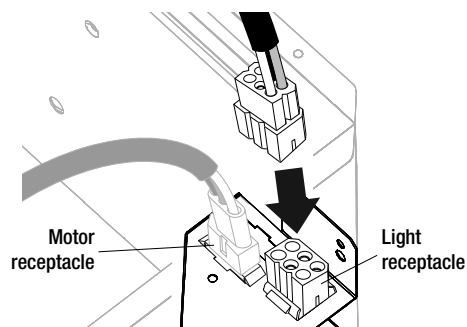

Fig. 22
- Properly plug light into receptacle. See figure 22.